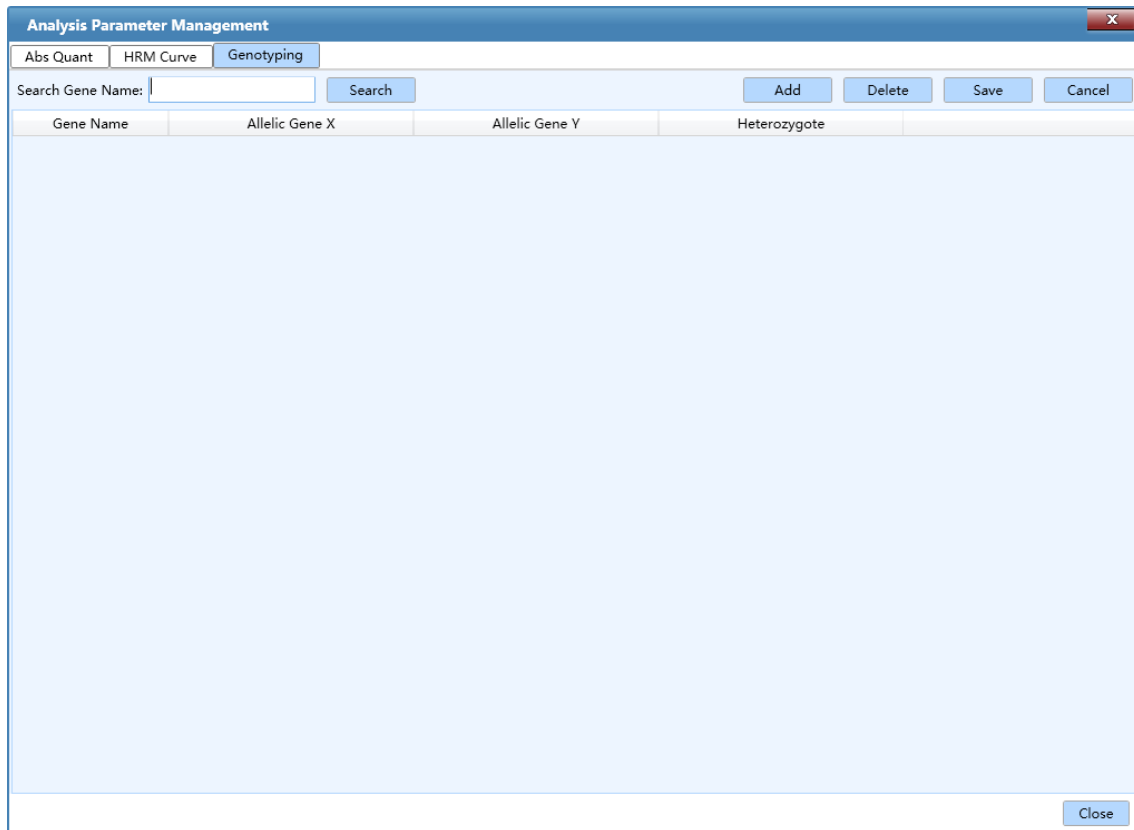

Figure D-3.10c. Parameter Management Interface – Genotyping Curve Tab
- ▶ **Genotyping** tab: User can manage the analysis parameters of specific or multiple genes for genotyping experimental results analysis on the **Genotyping** tab, as shown in figure D-3.10c.